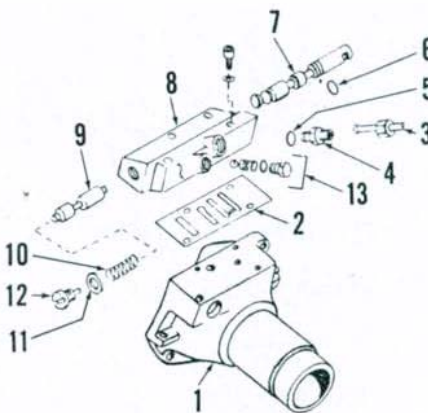

Fig. 145--Exploded view of Multi-Power shift control valve and associated parts.
Use a new gasket (2—Fig. 145) when reinstalling valve. Make sure the long cap screw with copper sealing washer is installed in the correct hole and tighten all screws evenly to a torque of 4.1-5.4 N·m (36-48 in.-lbs.). Tighten the four screws that attach housing (1) to transmission to 54-61 N·m (40-45 ft.-lbs.) torque.
148. **OVERHAUL.** To overhaul the removed "Multi-Power" control valve, refer to Fig. 145 and proceed as follows: